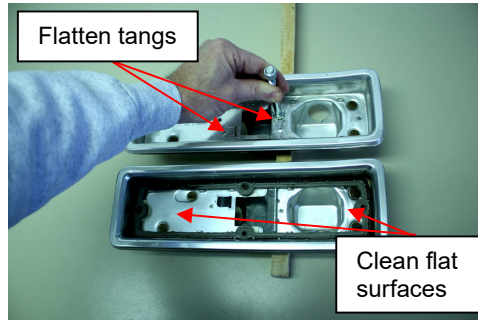

Figure 1
3. Clean the flat surfaces on the inside of the back housing plates. (See Figure 1)
4. Using pliers then finishing up with a hammer and large drift punch or large bolt, flatten the 2 protruding tangs level with the back surface (See Figure 1).